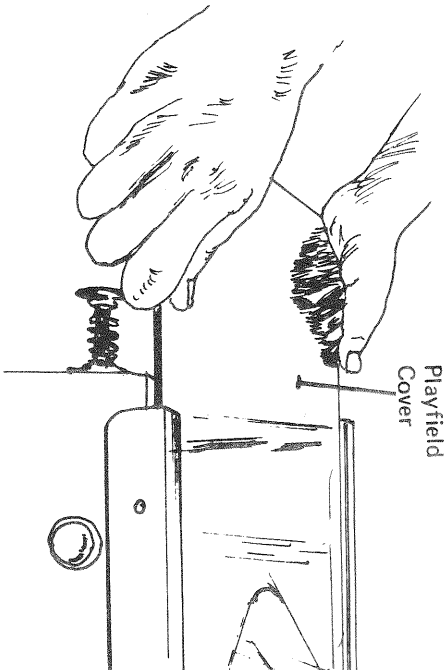

FIGURE 7
- 2. Slide the Playfield Cover out of the Cabinet. **CAUTION:** The Playfield cover is tempered glass and should be handled with care. Set the cover in a safe place after it is removed from the unit. (Figure 7)
5. Slide the playfield cover back into the player end of the lower cabinet. (See Figure 7, Page 13).